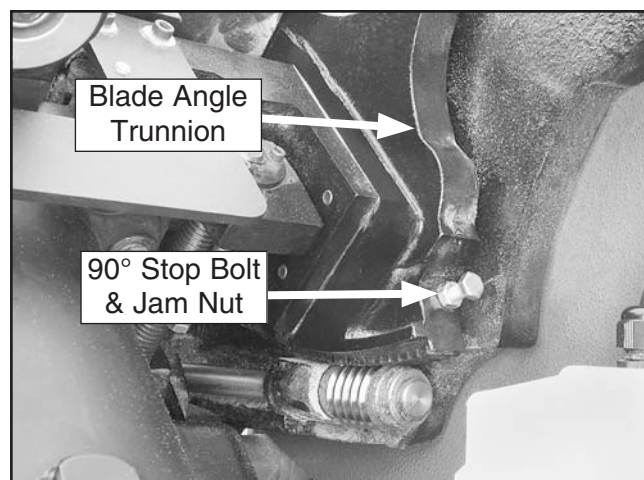

Figure 104. 90° stop bolt and jam nut.
5. Open the motor cover, loosen the jam nut shown in **Figures 104–105**, adjust the stop bolt up or down according to how far off the blade was from 90°, then repeat **Steps 2-3** until the blade stops at 90°.